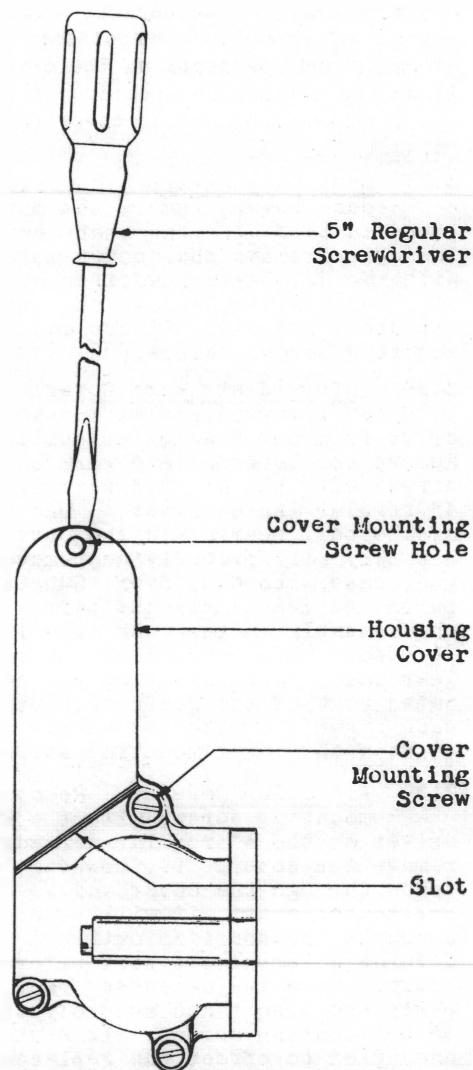

Fig. 39 - Illustrating Splitting of Alarm Housing Cover
3.17 Splitting Housing Cover When Mounted on Drive: Starting at the long side of the housing cover, scribe a line across the cover, 60° with the long side, to a point just above the boss for the mounting screw on the short side of the cover. Saw the cover along this line with a hack saw to a depth of approximately 1/16" deep. Do not saw the cover all the way through. Remove the cover mounting screw at the top with the 4" regular screwdriver and insert the blade of a 5" regular screwdriver between the cover and the housing at a point directly to the rear of the top screw hole. With the screwdriver in this position as shown in Fig. 39, force the cover from the housing until the cover snaps off at the sawed slot.